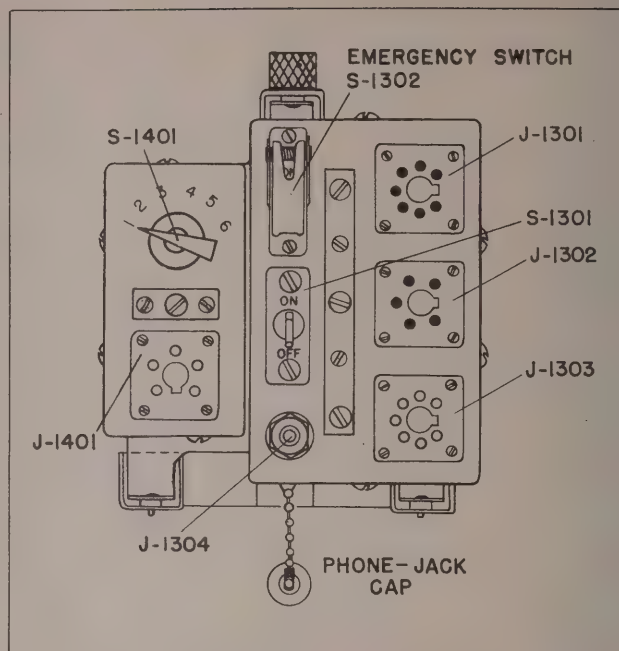

Figure 2–9. Selector and Control Units, Panel Controls
c. On the receiver-transmitter unit locate the detent mechanism O-501, which projects from the center of the upper front panel under the legend G FREQ ADJUST. (*Refer to Figure 2–8.*)
(Refer to Figures 2–9 and 4–15.)